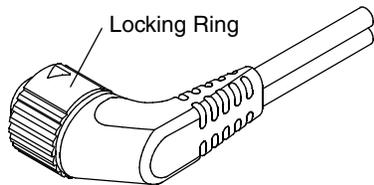

Figure 2-8 Therapy Cable Orientation
- 1 Orient the therapy cable so that the arrow is on top with the cable angled to the right (refer to Figure 2-8).